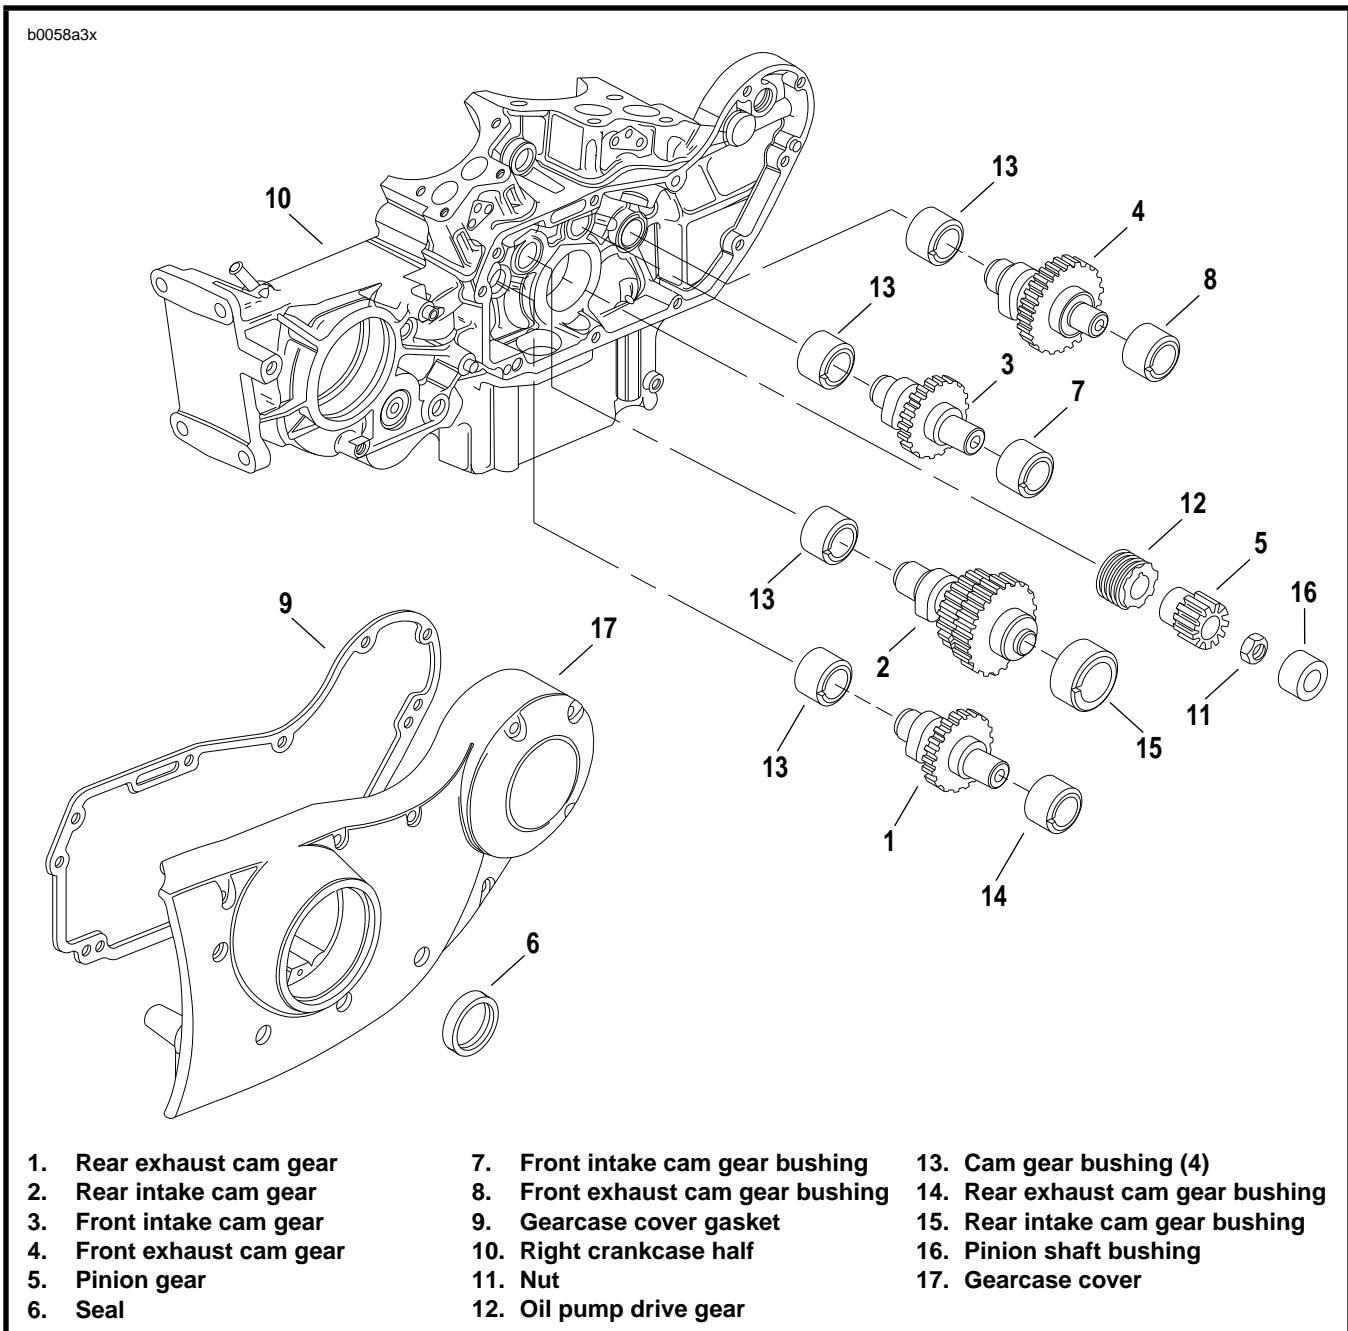

Figure 3-51. Gearcase and Valve Train Components
1. See Figure 3-51. Thoroughly clean area around gearcase cover (17) and tappets. Blow loose dirt from crankcase with compressed air.
- See Figure 3-51. Bushings (7, 8, 13, 14, 15 and 16) are press fit in gearcase cover (17) and crankcase. Inspect each bushing against its corresponding cam gear shaft or pinion gear shaft. See Table 3-10.
- See Figure 3-51. Using an arbor press, install each bushing (7, 8 and 14) in its gearcase cover (17) bore so that bushing shoulder contacts cover boss. There is no need to orient these particular bushings in any specific position of rotation within gearcase cover bores.
- See Figure 3-51. Rear intake cam gear bushing (15) must be installed in its gearcase cover (17) bore using an arbor press. You will need to orient the bushing in a specific position of rotation within the cover bore, and will need to drill a lubrication hole in the bushing, according to the following procedures
1. See Figure 3-51. Using an arbor press, install pinion shaft bushing (16) in its gearcase cover (17) so that bushing is flush with cover boss. There is no need to orient this particular bushing in any specific position of rotation within the gearcase cover bore.
1. See Figure 3-51. Bushings (7, 8 and 14) to be reamed must be installed in gearcase cover (17) as described in BUSHING INSTALLATION on page 3-43. Attach gearcase cover to right crankcase half (10), which has been disassembled from left crankcase half, securing with a minimum of three mounting screws.